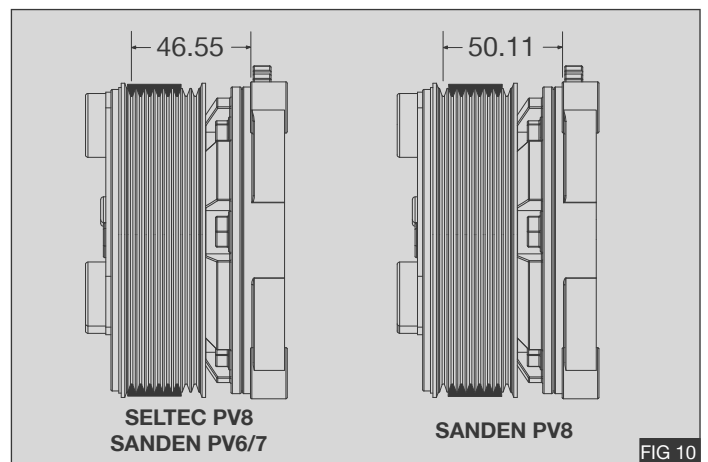

FIG 10
**Note:** Make sure that the drive belt is fitted into the correct groove of the compressor clutch as shown - Fig.10